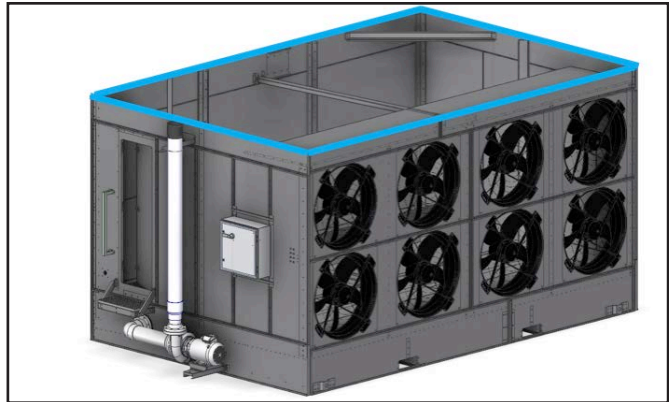

Figure 3 – Sealer Tape Application
3. Install sealer tape on the mating flange of the bottom section to ensure an airtight seal between the top and bottom section. Install flat butyl sealer tape (Frick part #554000) supplied with the unit, on the mating flanges of the lower section in a continuous line. At each corner, allow 1” overlap. See Figure 3.
9. On units with more than one casing, install the remaining casings using the same procedure as the first. When installing two or more casings, on the basin section, sealer tape must be applied to both cross flanges (see Figure 3).